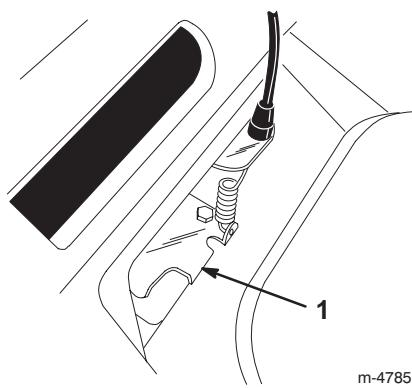

Figure 21
- Push the belt guide tab down until it contacts the lawn mower, then hold it in place (Fig. 21).